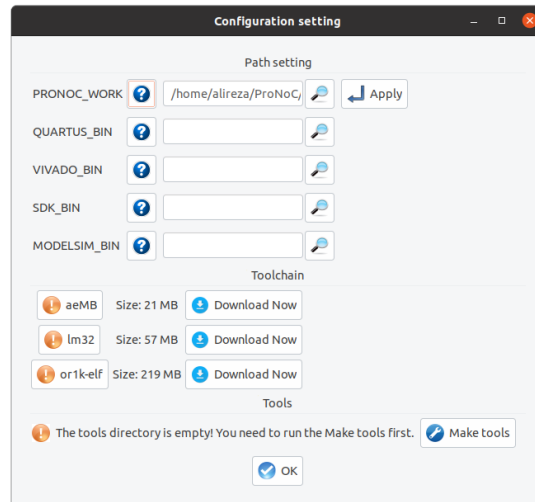

Figure 1.2: ProNoC configuration setting window snapshot.
5. If it is the first time you are running the ProNoC software, you should see the setting window shown in Figure 1.2.